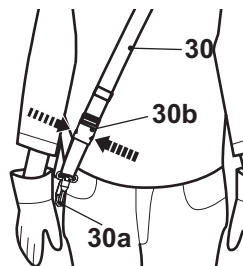

Fig. 23
**WARNING!** Always attach the product to the harness (30). Do not carry it only with your hands!
- In case of emergency hold the soft grip (7a) of the rear pole (7) with the left hand, and use the right hand to press two clips of the quick release (30b). The product together with the securing clip (30a) will be released automatically from the body because of the weight of the product (Fig. 23).